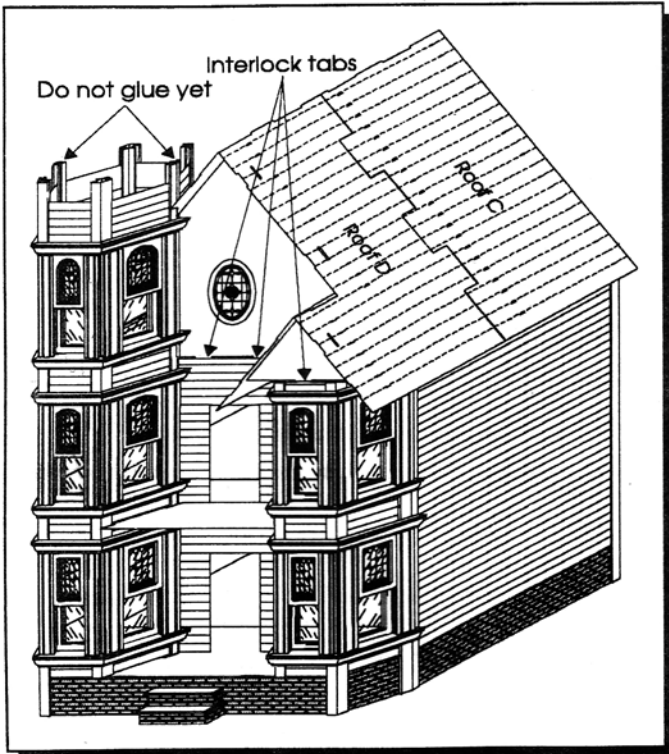

Figure 28
10. Glue and install the Roof Assembly as shown in Figure 28. Interlock tabs on the bottoms of the gables into the 3rd floor notches and with the gable notches fitting into the roof slots. Wipe away excess glue. Trim Roof notches to fit if needed.